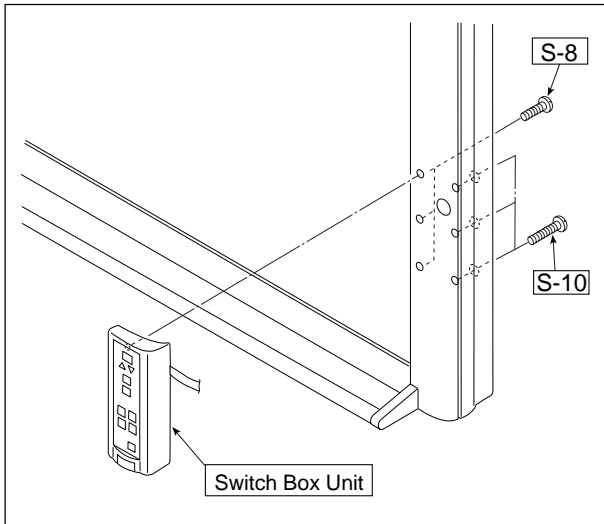

Fig. 7
5) Remove the Switch Box Unit. (See Fig. 7.)
1. Remove the "S-8" and "S-10" screws shown in Fig. 7.
2. Remove the "S-5" screws shown in Fig. 7 and then remove the Switch Box Unit.